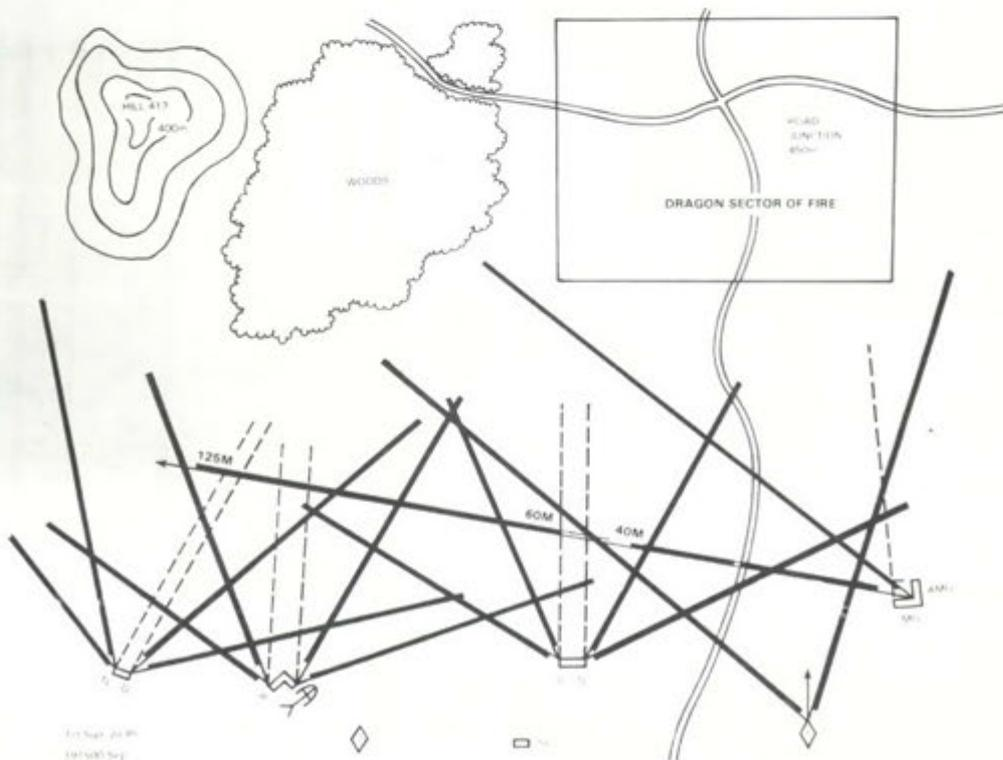

Figure 2. Mechanized infantry squad sector sketch.
- b. Sector sketch for a mechanized infantry squad (figure 2).